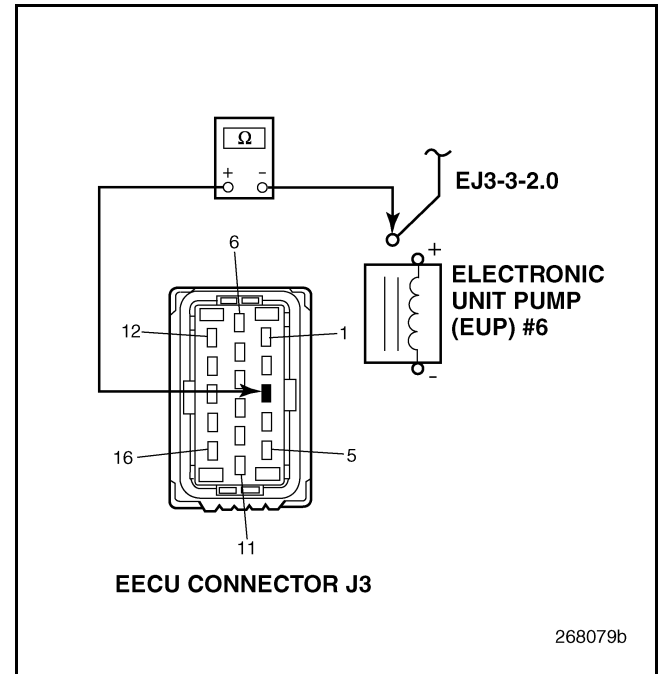

Figure 785
4. Check for continuity between EECU harness connector J3 pin 3 and circuit EJ3-3-2.0 at EUP Solenoid 6 (see Figure 785).